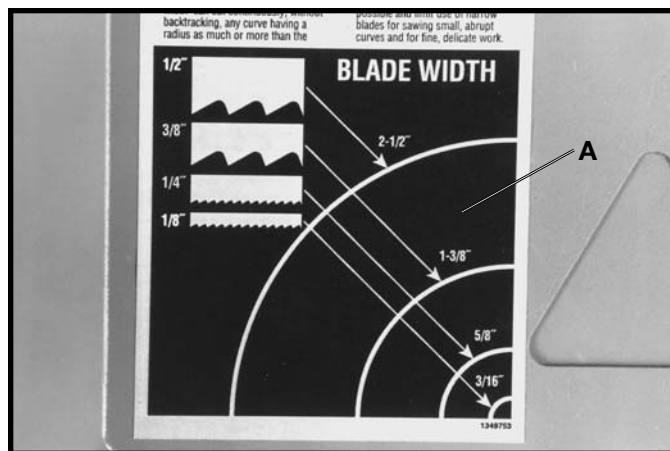

Fig. 35
Turning radius may vary depending on the type of blade and amount of set. Each blade, however, depending on its width, can cut continuously without backtracking any curve having a radius as much or more than the specified minimum turning radius of the blade, as shown in the chart (A) Fig. 35, located inside top wheel cover.